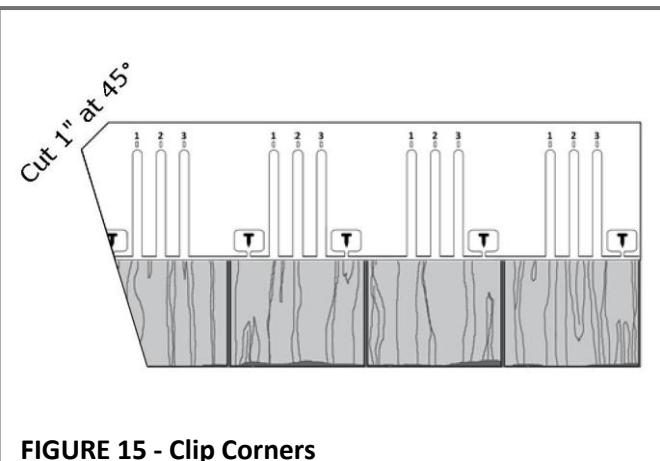

FIGURE 15 - Clip Corners
- **SHINGLES** - Trim a **1" (25mm) 45° angle cut** from the top of the shingle in the valley. See **Figure 15**.